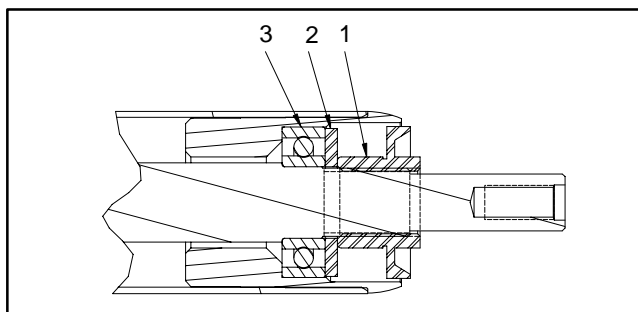

Figure 31
2. Position a new bearing, black assembly washer (see Special Tools) and original lock nut onto each end of the roller shaft (Fig. 31).